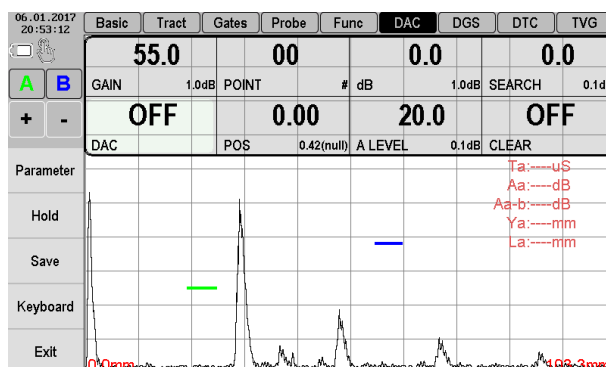

Figure 2.49 – DAC mode off
1. Do not turn on the input function of DAC («DAC – OFF»), Figure 2.49.